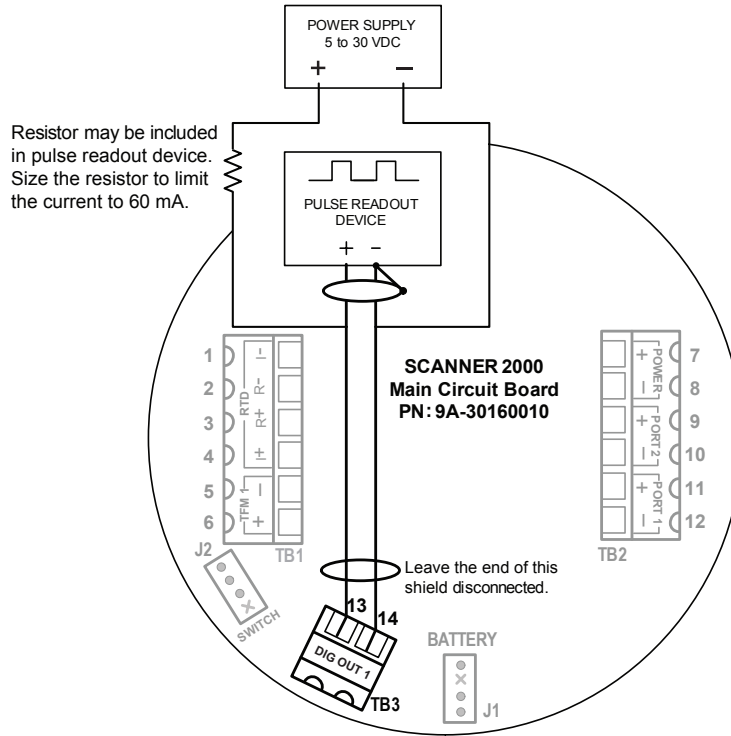
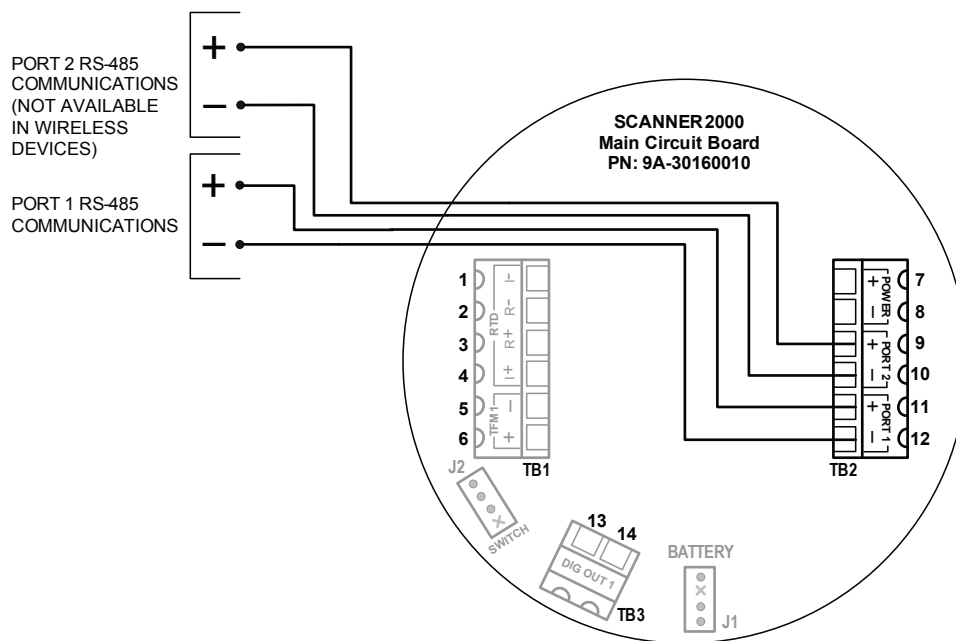
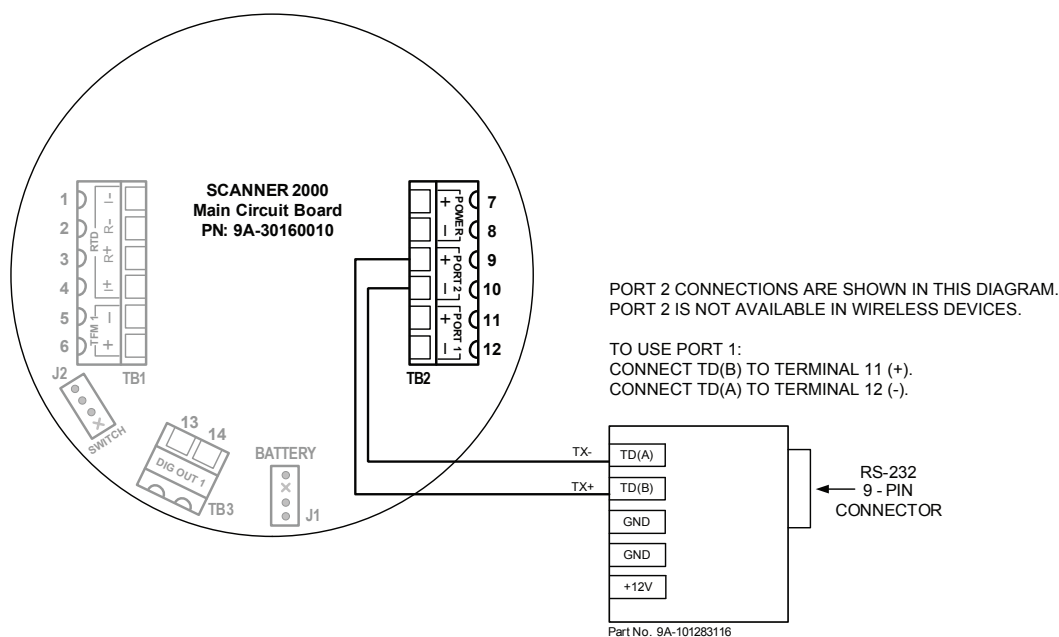

Figure 3.8—Pulse output wiring
Figure 3.9—RS-485 output (permanent connection)
Figure 3.10—RS-485 output (connection to laptop with 9-pin converter)
- e. Connect wiring for output signals, if appropriate. See Figure 3.8, page 58, Figure 3.9, page 59, and Figure 3.10, page 59, for wiring diagrams.
The standard Scanner 2100 supports a solid-state digital output that is configurable as either a pulse output or an alarm output. As a pulse output, the pulse width duration and pulse representation are both configurable. Because the circuit is isolated, it can be used in conjunction with any other feature on the Scanner 2100. A two-conductor cable from the Scanner 2100 to the remote location is required. The maximum rating of the digital output circuit is 60 mA at 30 VDC. Maximum frequency is 50 Hz. Wire as shown in Figure 3.8.
The RS-485 output is required for communication with the interface software. The wiring diagram in Figure 3.9, page 59 supports a permanent connection.
The RS-485 output is required for communication with the interface software. The wiring diagram in Figure 3.10 supports a temporary laptop connections using an RS-232 to RS-485 converter.
An RS-232 to RS-485 converter or NuFlo USB adapter is required for connecting the EFM to a laptop or PC. The converters available from Cameron require no handshaking or external power to operate. See Section 6—Spare Parts, page 83 for ordering information; see Figure 3.9, page 59 and Figure 3.10, page 59 for wiring instructions.